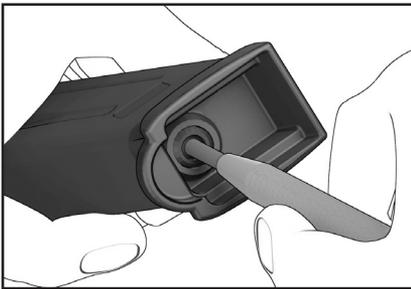

Figure 26
1. Using a blunt, pointed instrument, depress the locking insert detent located in the floor-plate and hold it there (see Figure 26).